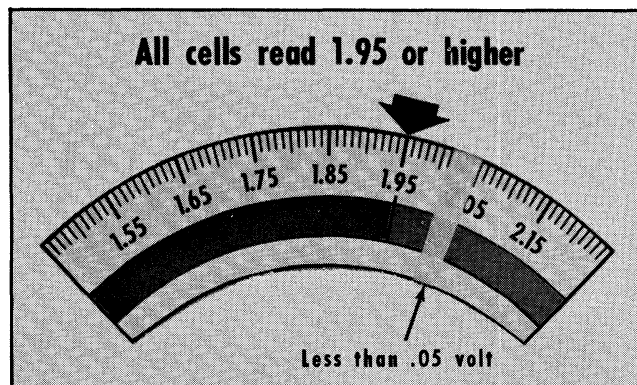

Fig. 11-5 Good Battery - Sufficiently Charged
a. Good Battery — Sufficiently Charged (Fig. 11-5)